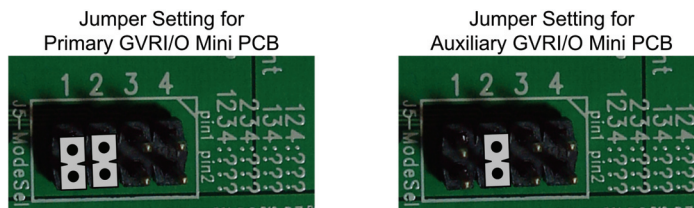

Figure 3. Jumper Settings Detail
- **Board Mode** Displays the board mode, which must be set to *Analog-2* by placing a jumper at **J5** position 2 (see Figure 3).